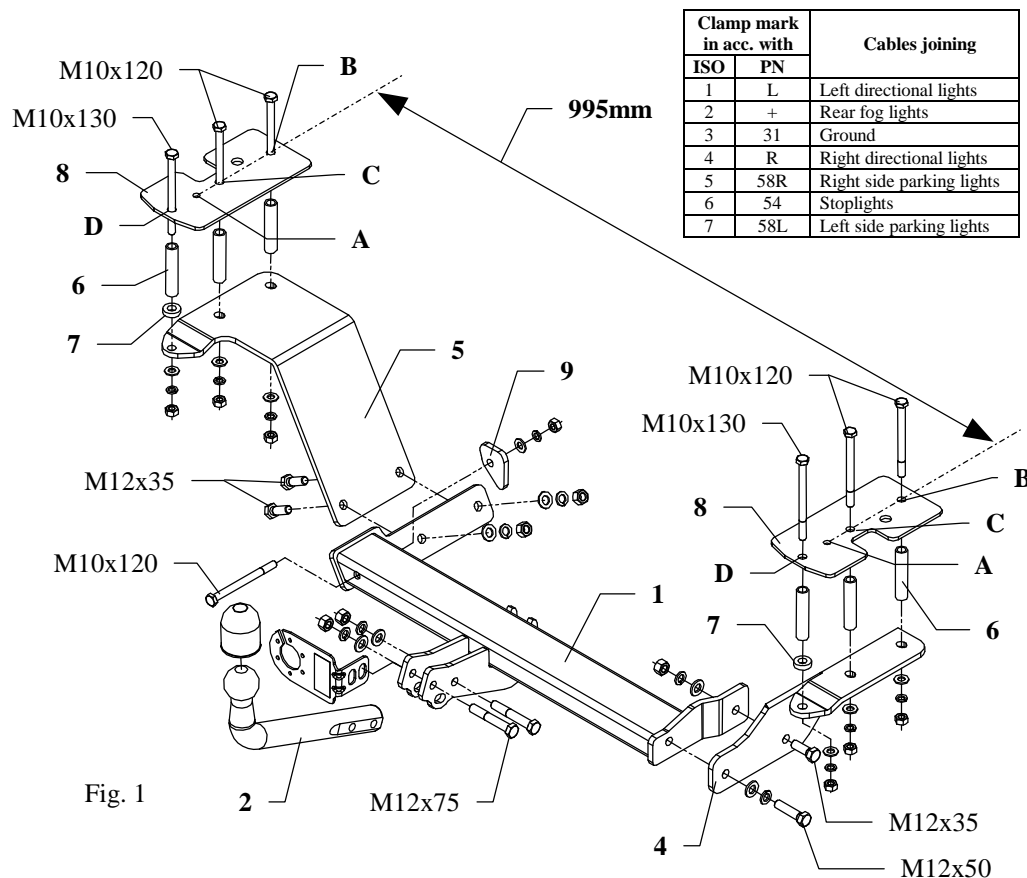
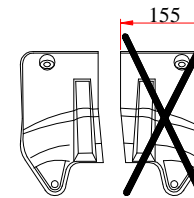

Fig. 1
Fig. 2
3. Fish-plates (pos. 8) put in this way so holes A agree with holes after luggage holders disassembly. Arrange fish-plates parallel with chassis lines and according dimension from figure 1. Next through holes B and C drill holes using bit  $\phi 11\text{mm}$  and through holes D drill holes using bit  $\phi 18\text{mm}$ .
4. Through holes D put distance sleeves  $\phi 17$  (pos. 6), put fish-plates pos.8 at the end put bolts M10x120mm (pos.14) and M10x130mm (pos. 13). See figure 1.
- on the left side – on protruding bolts put left bracket (pos. 5). Put distance sleeves pos. 6 before! Twist on..
- NOTE!** Use thick washer  $\phi 25 \times 6\text{mm}$  (pos. 7) on hole D (see figure 1).
- on the right side – on protruding bolts put right bracket (pos. 4). Put distance sleeves pos. 6 before! Twist on loosely.
6. Between installed side brackets (pos. 4 and 5) put main bar of the towing hitch (pos. 1) and fix using bolts M10x120mm, M12x35mm and M12x50mm. See figure.
7. Reassemble thermal shield after cut out fragment according to figure 2.
9. Fix tow-ball (pos. 2) with socket plate (pos. 3) using bolts M12x75mm (pos. 10) from accessories.